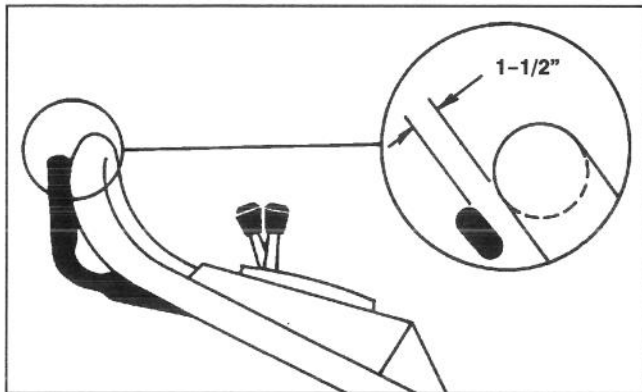

Figure 24
**3. CHECK ADJUSTMENT**—Adjustment is correct when control bar is about 1-1/2 inches from handle (Fig. 24) and wheels start to turn freely.